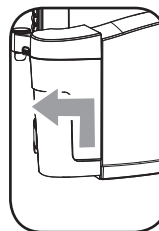

Fig. 3
- 3- To remove the carafe, lift it and carefully pull away from the machine (Fig. 3).